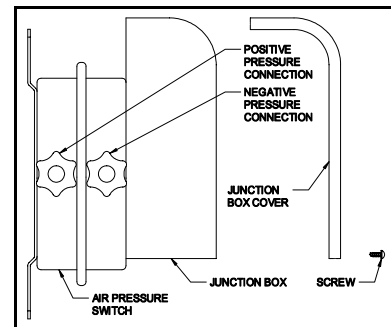

Figure 5
6. Loosen the white plastic compression nut on the positive pressure connection of the air pressure switch. Insert the straight end of the tube into the plastic nut and tighten the nut by hand until the tube is held securely. Do not remove the plastic pressure nut on the negative pressure connection. (See Figure 5)
7. Remove the junction box cover on the air pressure switch (See Figure 5)